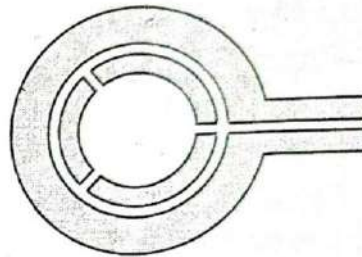

Fig.2 Three jets measuring head for external gauging
- *By having **suitable measuring head these gauges can be used for external gauging as shown in the Figure 2.***